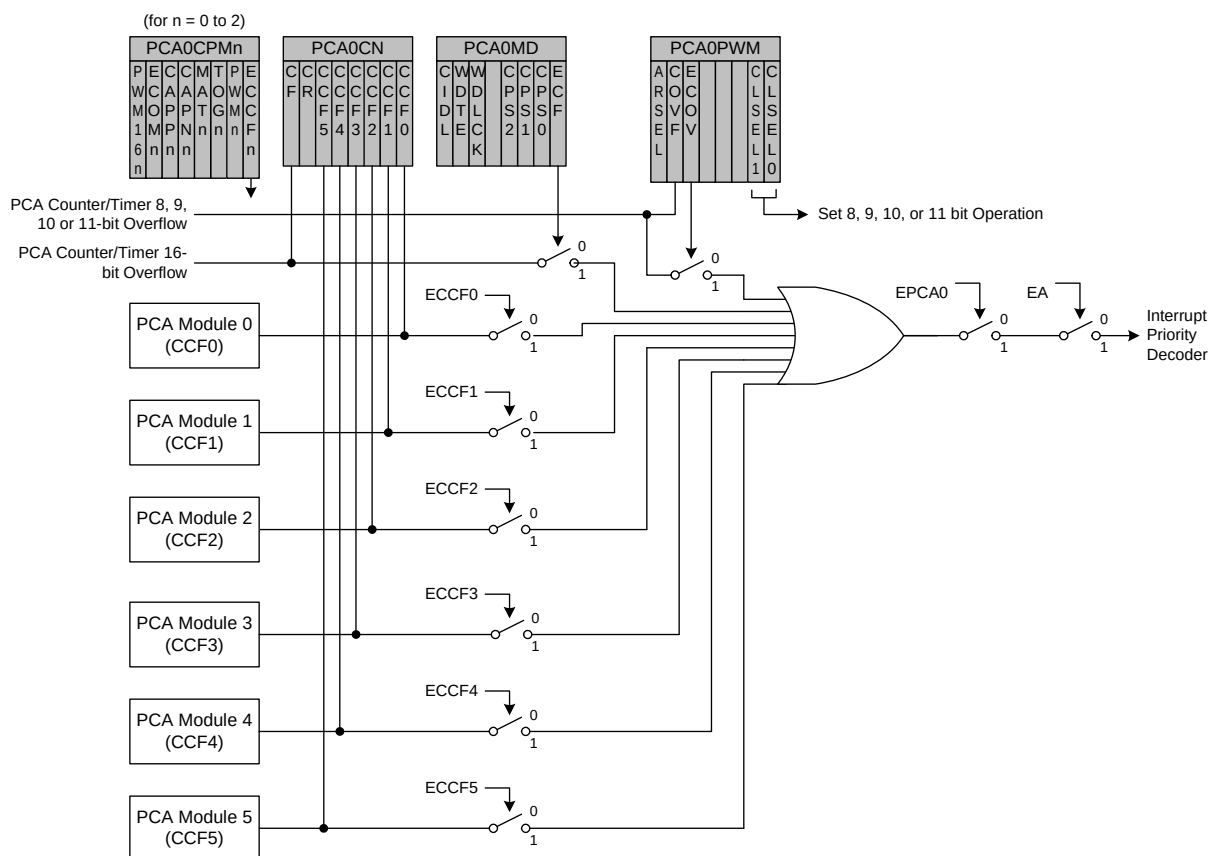

Figure 26.3. PCA Interrupt Block Diagram
Figure 26.3 shows a diagram of the PCA interrupt tree. There are five independent event flags that can be used to generate a PCA0 interrupt. They are as follows: the main PCA counter overflow flag (CF), which is set upon a 16-bit overflow of the PCA0 counter, an intermediate overflow flag (COVF), which can be set on an overflow from the 8th, 9th, 10th, or 11th bit of the PCA0 counter, and the individual flags for each PCA channel (CCF0, CCF1, CCF2, CCF3, CCF4, and CCF5), which are set according to the operation mode of that module. These event flags are always set when the trigger condition occurs. Each of these flags can be individually selected to generate a PCA0 interrupt, using the corresponding interrupt enable flag (ECF for CF, ECOVF for COVF, and ECCFn for each CCFn). PCA0 interrupts must be globally enabled before any individual interrupt sources are recognized by the processor. PCA0 interrupts are globally enabled by setting the EA bit and the EPCA0 bit to logic 1.